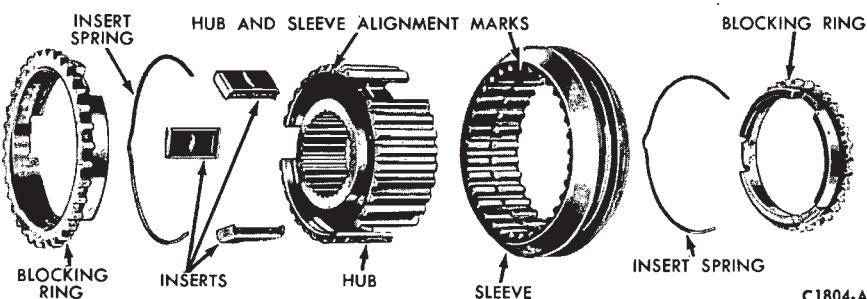

FIG. 19—Second and Third Synchronizer Disassembled
4. Install one insert spring (Fig. 19)